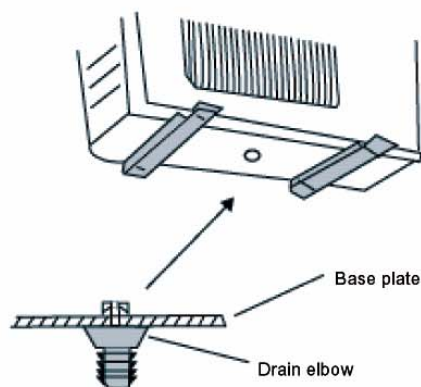

Fig.11-8
- Align the center charging flexible tube which is on the vacuum gauge with the low(Lo)pressure port, then connect to the fluorine charging nozzle. (As shown in Fig.11-8)